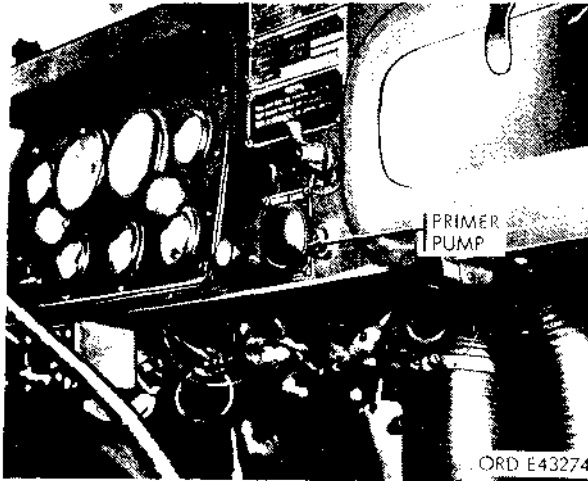

Figure 3-5. Removing primer pump.
- (1) Disconnect the fuel lines from the primer pump.
- (2) Unscrew the outer locknut, and remove the primer pump (fig. 3-5).